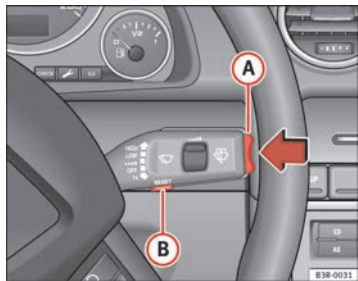

Fig. 58 Windscreen wiper lever: Function selector switch
- To change the speed limit, press the top or bottom of the function selector switch on the windscreen wiper lever (A) ⇒ fig. 58. The speed limit displayed will then increase or decrease by 10 km/h at a time.
- Now press and hold the Reset button on the windscreen wiper lever (B) ⇒ fig. 58 until the crossed out warning symbol for speed limit 2 appears on the display.